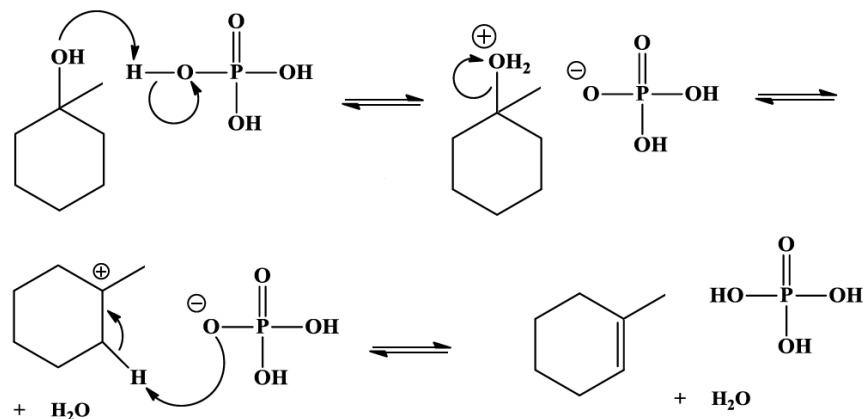

Figure 5: Mechanism of the conversion of 1-methyl-1-cyclohexanol to 1-methyl-1-cyclohexene
- The reaction mechanism, shown in *figure 5*, shows the reaction was catalyzed by H_3PO_4 85%. The first step of the reaction includes protonization of the OH group on the 1-methyl-1-cyclohexanol molecule by H_3PO_4 , which converts the OH group to H_2O , a good leaving group. The H_2O then leaves the molecule creating a carbocation. An elimination reaction then takes place when H_2PO_4 is protonated by accepting the hydrogen proton from the β carbon adjacent to the carbocation. A π bond formation of an alkene results between the α carbocation and β carbon that donated the hydrogen proton, characterizing the 1-methyl-1-cyclohexene product.